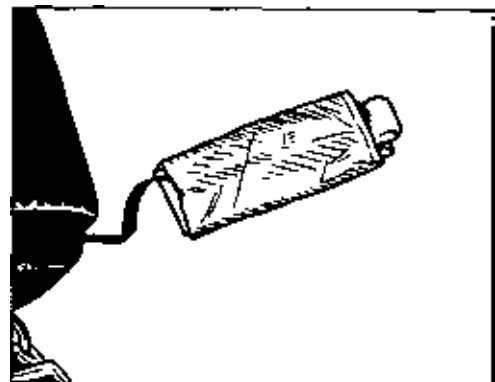

Figure 6
Step 5 Fold the pilotchute into thirds again so that the result is a flat package approximately the length and width of the spandex pocket. *Figure 6*